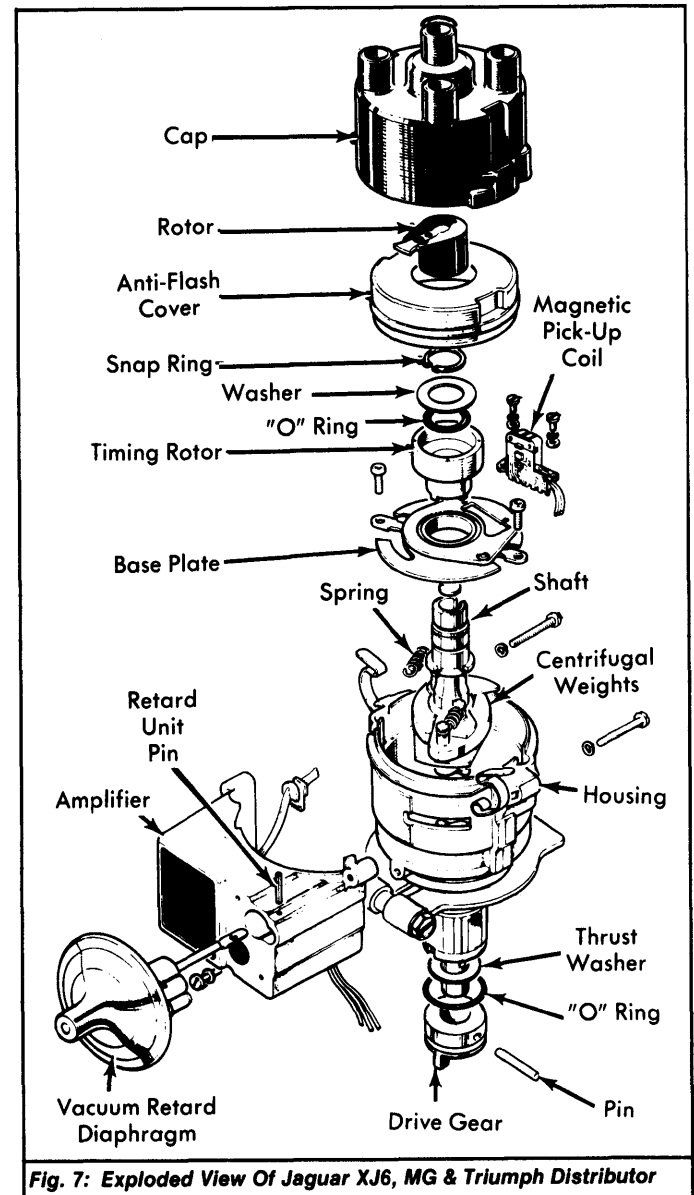

Fig. 7: Exploded View Of Jaguar XJ6, MG & Triumph Distributor
**Jaguar XJ6, MG & Triumph** - To reassemble distributor, reverse disassembly procedure. See Fig. 7. Lubricate weight assembly, shaft and moving plate with a light-weight grease. Make sure vacuum link is properly attached to moving plate pin. Timing rotor tang must fit into slot on shaft. With distributor assembled and replaced in vehicle, set air gap and ignition timing to specifications.